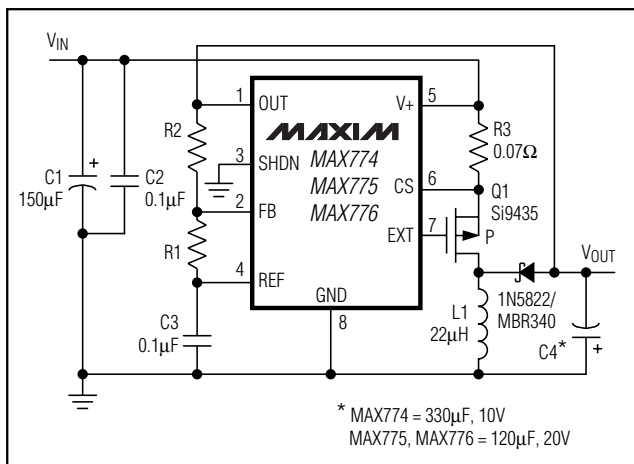

Figure 3. Bootstrapped Connection Using External Feedback Resistors
The MAX774/MAX775/MAX776 are preset for -5V, -12V, and -15V output voltages, respectively; however, they may also be adjusted to other values with an external voltage divider. For the preset output voltage, connect FB to REF and connect OUT to the output (Figure 3). In this case, the output voltage is sensed by OUT.
- See Figures 3 and 4 for adjustable operation. The impedance of the feedback network should be low enough that the input bias current of FB is not a factor. For best efficiency and precision, allow 10µA to flow through the network. Calculate $(V_{REF} - V_{FB}) / R1 = 10\mu A$. Since $V_{REF} = 1.5V$ and $V_{FB} = 0V$, R1 becomes 150kΩ. Then calculate R2 as follows:
Due to high current levels and fast switching waveforms, proper PC board layout is essential. Use a star ground configuration; connect the ground lead of the input bypass capacitor, the output capacitor, the inductor, and the GND pin of the MAX774/MAX775/MAX776 at a common point very close to the device. Additionally, input capacitor C2 (Figures 3 and 4) should be placed extremely close to the device.
If an external resistor divider is used (Figures 3 and 4), the trace from FB to the resistors must be extremely short.